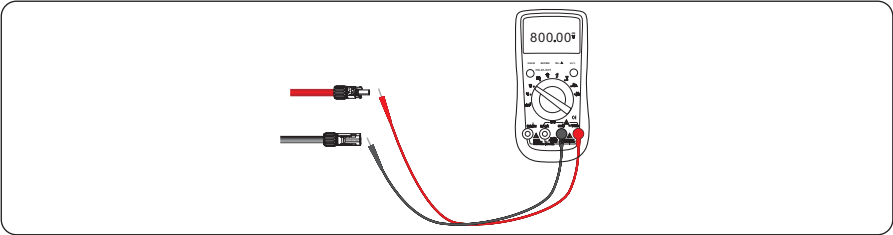

Figure 5.15 Checking the voltage of every route Strings
**Step 5** Measure the voltage of every route Strings using a multimeter. Ensure that the polarities of the DC input power cables are correct, as shown in Figure 5.15.